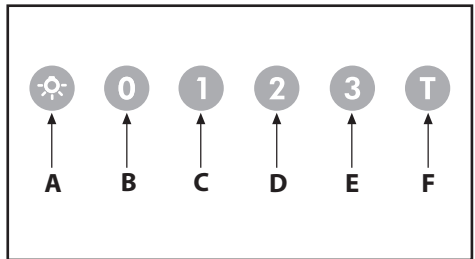

Fig.10
• **Commands (Fig.10) luminous** the key symbols are explained below: